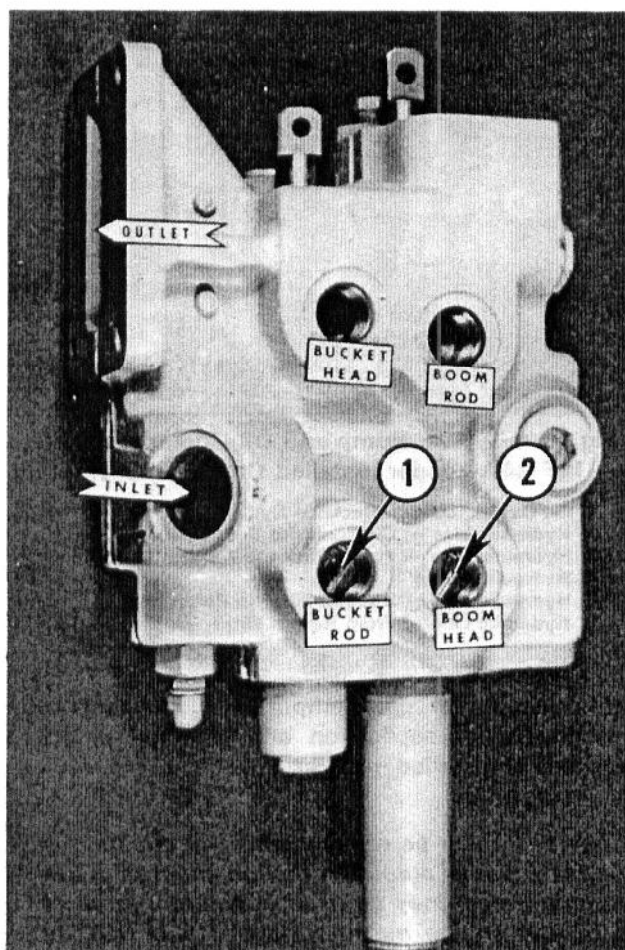

Fig. 8 — Port Identification and Restrictor Location
a. Spools In "Neutral" position ... see Figs. 8 and 9. Oil enters valve inlet, flows past the main relief valve then the center land of bucket spool and passes around the center land of the boom